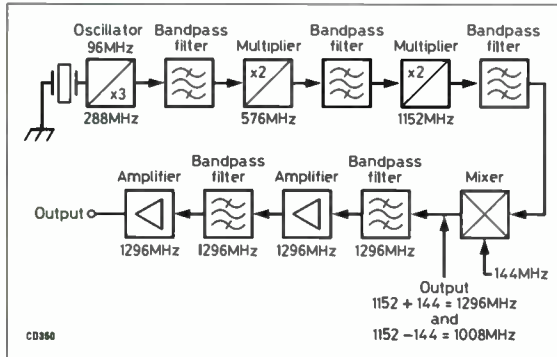

Fig 9.4. Block diagram of a mixer-type microwave transmitter
Fig 9.4 is the block diagram of a different type of transmitter. It uses the same sort of circuit to generate a crystal-controlled 'local oscillator' signal, this time *not* harmonically related to the final frequency. The local oscillator frequency is mixed with another 'intermediate frequency' (IF) to give the microwave frequency which is wanted. In the figure, a 96MHz crystal is used in the oscillator, and output is taken at three times this frequency (288MHz), doubled to 576MHz, then doubled again to 1152MHz. The block labelled 'mixer' takes this frequency and mixes it with the 144MHz IF to give two new frequencies which are $1152\text{MHz} + 144\text{MHz} = 1296\text{MHz}$ (wanted) and $1152\text{MHz} - 144\text{MHz} = 1008\text{MHz}$ (unwanted). The mixer output goes through a filter which removes most of the unwanted 1008MHz signal and